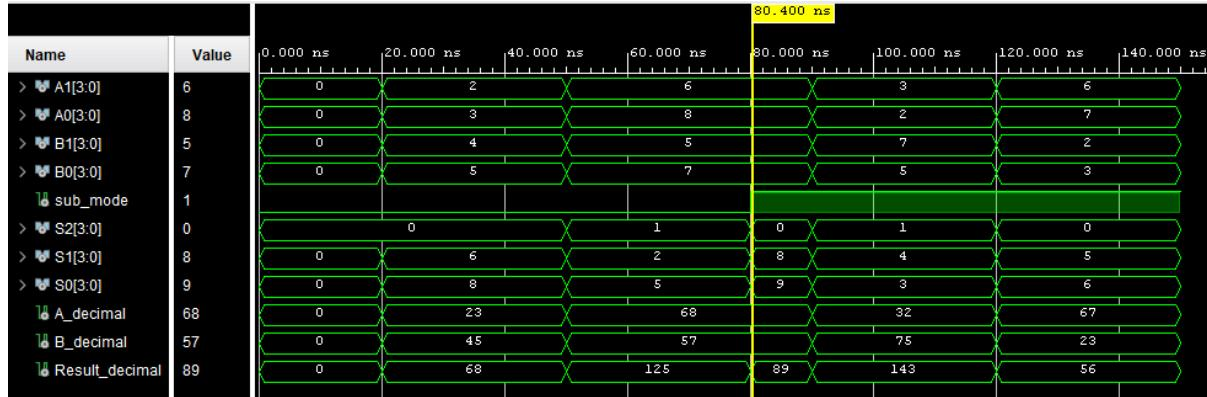

Figure 4 Simulation results
- (i) **Adder, $P>Q$:** $45+23=68$ (Fig. 4, 20–40 ns)